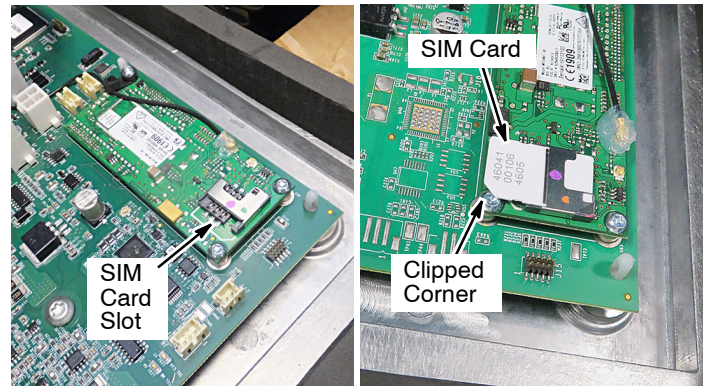

Fig. 8
- Fully insert the SIM card into the circuit board card slot as shown (Figure 8).